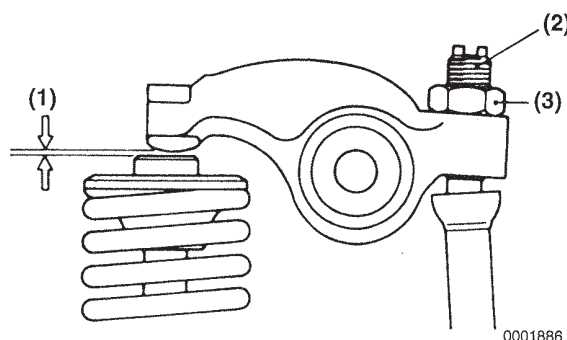

Figure 6-34
3. Check the valve clearance (**Figure 6-34, (1)**) using a feeler gauge. If adjustment is required, proceed to the next step. See *Valve Clearance* on page 6-5 for the specification.
4. Loosen the adjusting screw locknut (**Figure 6-34, (3)**). Turn the valve adjustment screw (**Figure 6-34, (2)**) to adjust the valve clearance so there is a slight "drag" on the feeler gauge when sliding it between the rocker arm and the valve cap. Hold the adjusting screw while tightening the valve adjusting screw locknut. Recheck the clearance.